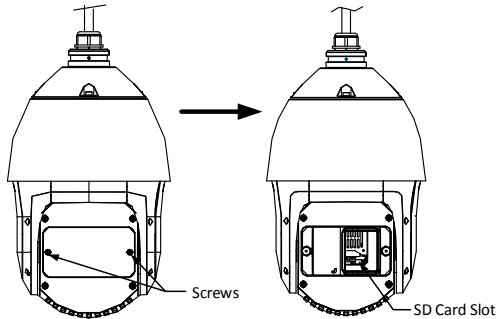

Figure 1-11 SD Card Slot
1. Remove the cover on the back of the speed dome as shown in Figure 1-11.